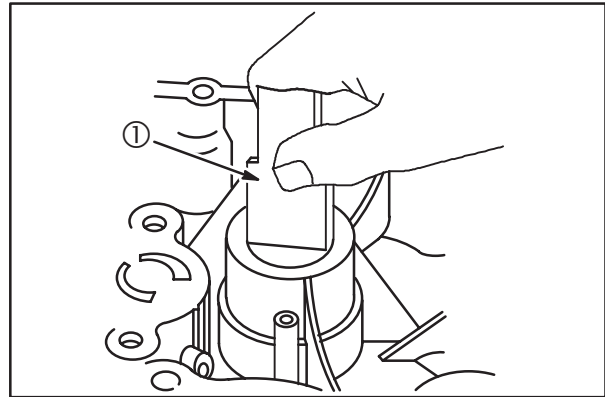

Fig. 18
Replace the sump if the PTO bearing is scored or if Plug Gauge #19386 (1), enters bearing. Try gauge at several locations in bearing, **Fig. 18**.